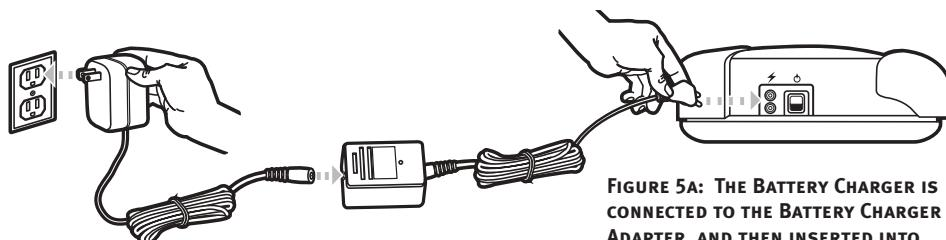
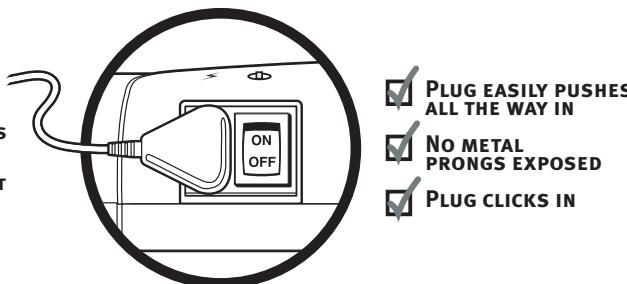

FIGURE 5A: THE BATTERY CHARGER IS CONNECTED TO THE BATTERY CHARGER AC ADAPTER, AND THEN INSERTED INTO ROOMBA'S CHARGE SOCKET.
FIGURE 5B: THE CHARGE PLUG ONLY INSERTS COMPLETELY INTO ROOMBA'S CHARGE SOCKET IN THE ORIENTATION SHOWN. PRESS FIRMLY TO FULLY SEAT CHARGE PLUG.
2. Connect the Battery Charger to the Battery Charger AC Adapter, and insert the Battery Charger's Charge Plug into Roomba's Battery Charger Socket as shown in Figure 5A. Please note that the Charge Plug will only fully insert into the socket in the proper orientation, as shown in figure 5B.